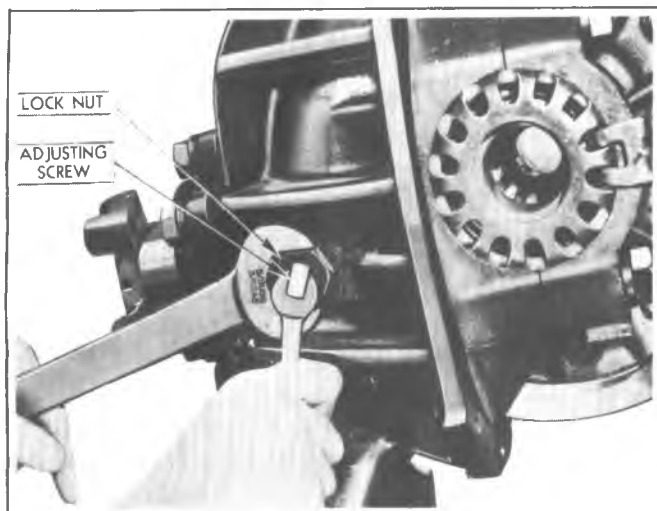

Fig. 11G—Ring Gear Thrust Pad Adjustment
3. Back off screw one-twelfth (1/12) turn and tighten locknut to specifications. See figure 11G.